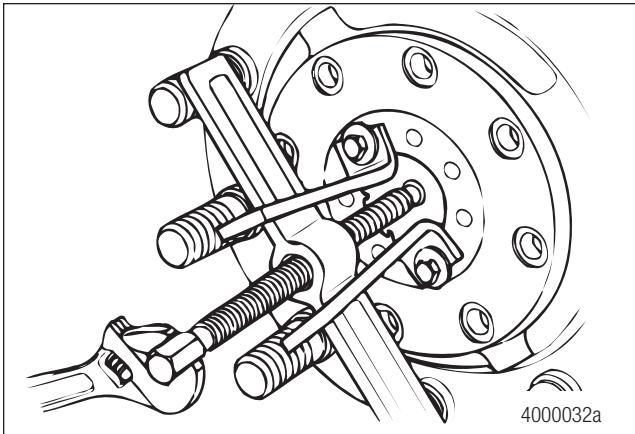

Figure 4.7
4. Remove the drive flange from the hub. If necessary, use a puller to remove the drive flange. Figure 4.7.